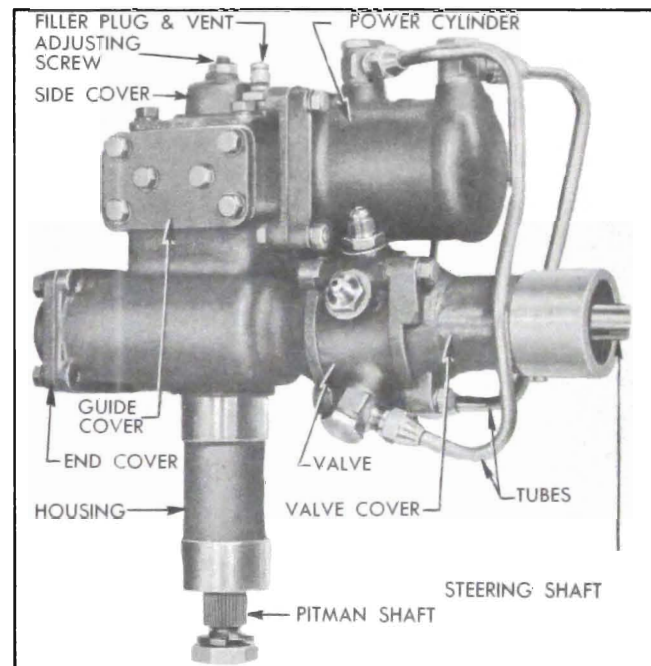

Figure 8-20—Left Side of Power Steering Gear Assembly
2. Remove two hoses, two large valve-to-cylinder tubes, and the small bleed line tube, then allow oil to drain from hydraulic valve and power cylinder. Remove filler plug with vent and drain lubricant from gear housing. See figure 8-20.
3. Turn steering shaft clockwise as far as possible, remove the four corner bolts only from the power rack guide cover, then remove the cover and guide assembly and all cover shims. See figure 8-20.
28. Install the small bleed line tube and the two large valve-to-cylinder tubes. The longer tube goes on left side of gear assembly. See figure 8-20. Tighten the elbow bolts at hydraulic valve but leave elbow bolts loose at power cylinder.